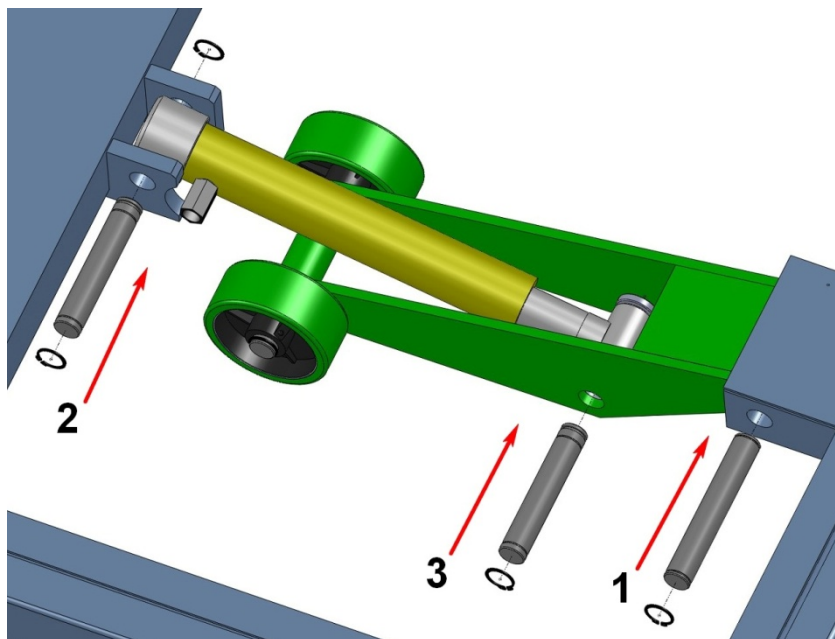

Figure 6.7
3. Install all the axes according to the figure 6.7, to install the lifting support on the platform. Finally, install all the springs.